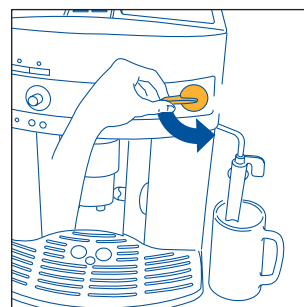
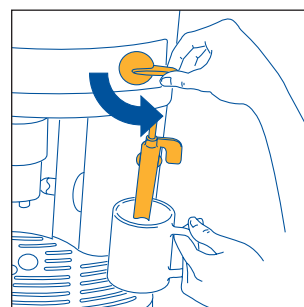
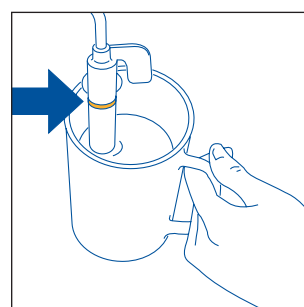

Fig.5
Fig.23
Fig.24
3. **IMMEDIATELY AFTER, WITHIN A MAXIMUM OF 30 SECONDS**, turn the steam knob anticlockwise until it stops (Fig.5) (it is normal for the machine to make some noise).
- Turn the steam knob half a turn in anticlockwise until it stops (Fig. 5): hot water will come out of the milk frother and start to fill the container underneath.
- **Immediately after, within a maximum of two minutes** (otherwise the machine automatically returns to the coffee function), dip the milk frother into the container of milk (Fig. 23), making sure not to immerse the line in relief on the milk frother (indicated by the arrow in Fig. 24) and turn the steam knob half a turn anticlockwise until it stops (Fig. 5). *(Be careful, to avoid being scalded)*. The steam released will make the milk froth and increase in volume. To make creamier foam, dip the milk frother into the milk and rotate the container with slow movements from the bottom to the top (you are recommended to limit steam delivery to no more than two minutes at a time).
- Release a little steam for a few seconds by turning the steam knob anticlockwise until it stops (Fig. 5).